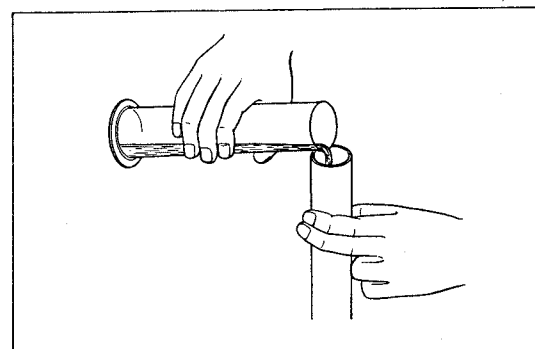

Fig. 43
- 6) Pour the specified amount of HONDA automobile automatic transmission fluid in the front fork. (Fig. 43)